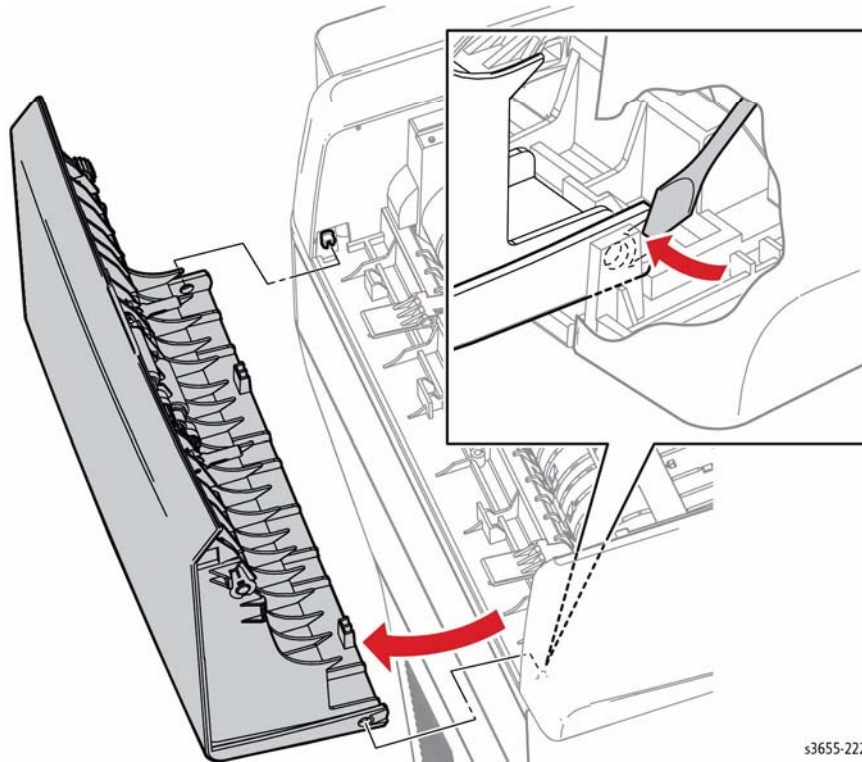

Figure 1 Remove the DADF Top Cover
2. Refer to Figure 1 to locate and release the cover from the hinge bosses to remove.